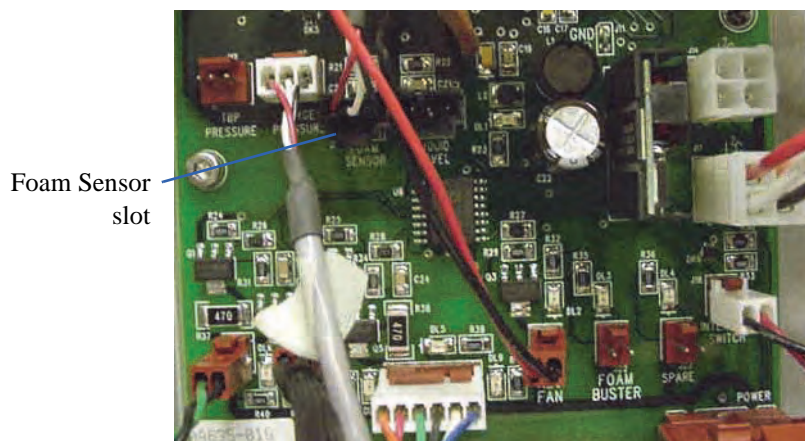

Figure 9.2. Plugging in the Foam Sensor cable
6. Plug the connector into the slot on the I/O board labeled “Foam Sensor” (J15; see Figure 9.2).